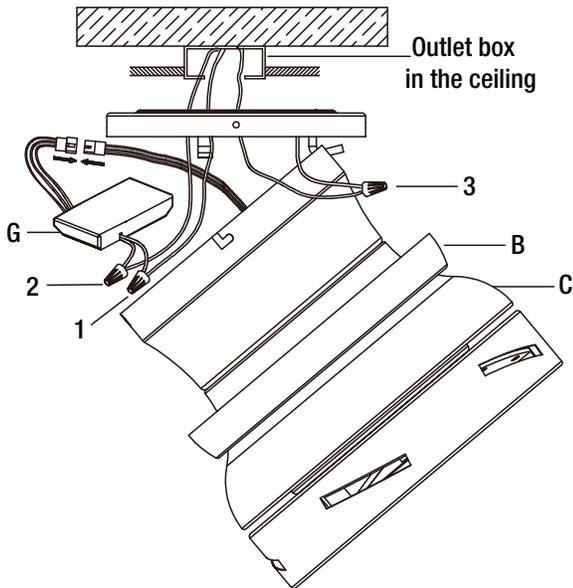

Figure 7
- Connect the receiver (G) to the fan wires by inserting the molded adaptor plug from the receiver (G) to the molded adaptor plug from the fan motor assembly (C), as illustrated in Figure 7.
- Use wire connectors (AA) to connect the receiver (G) and fan wires to the supply wires from outlet box according to the Figure 7 and the following instructions: